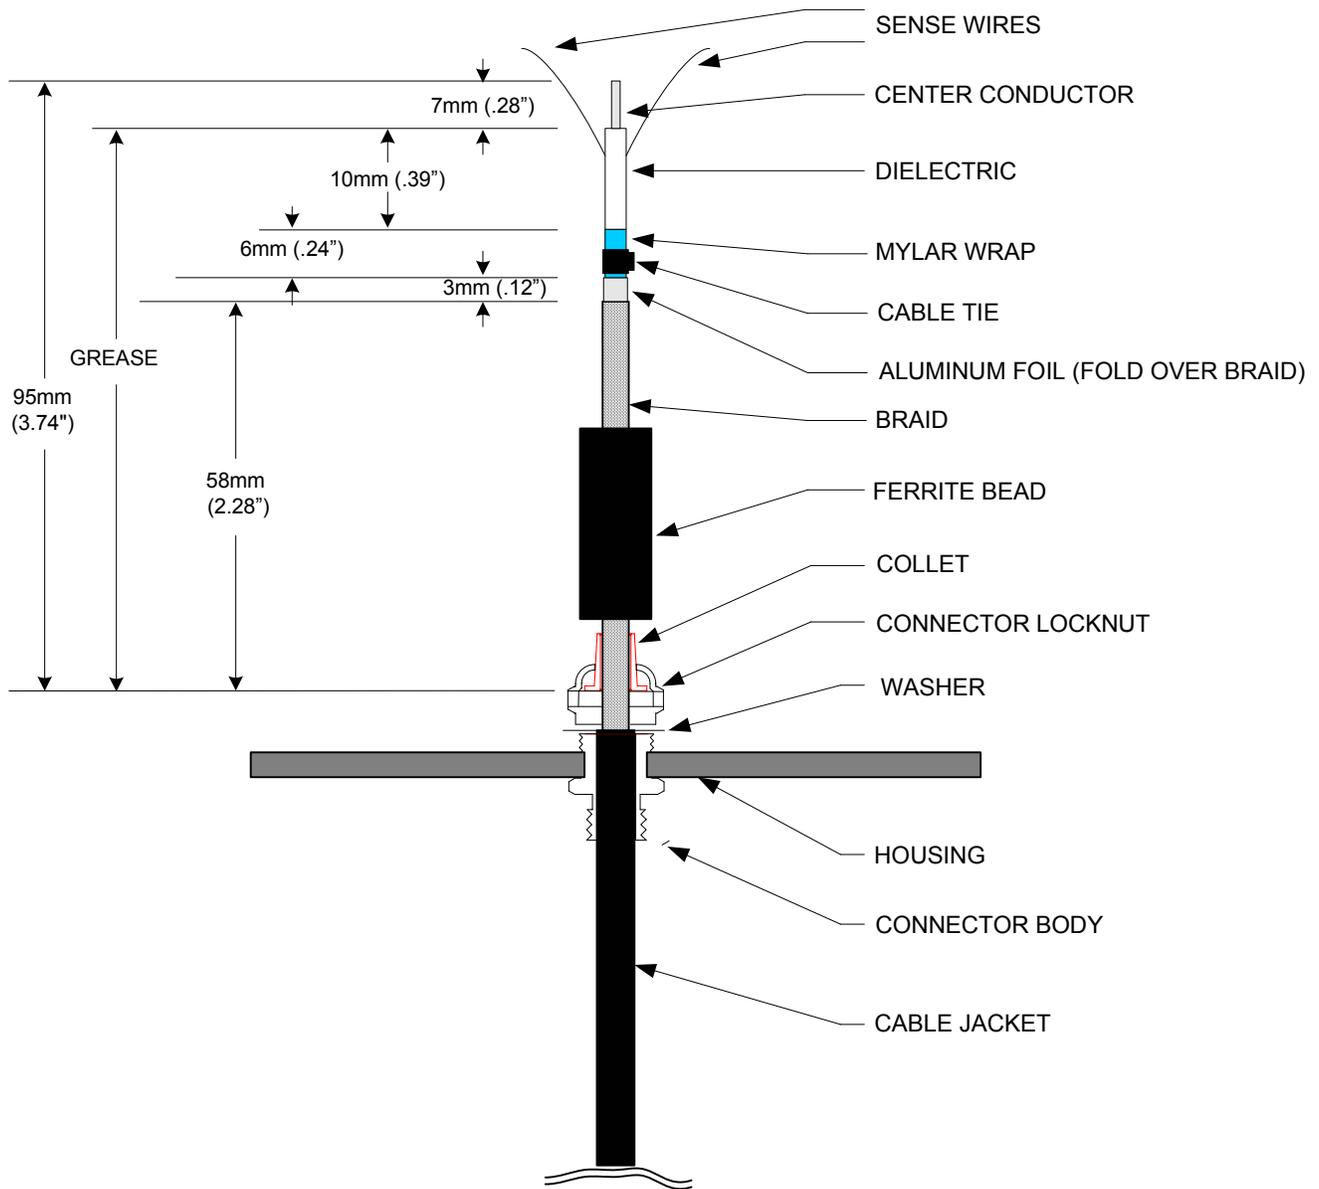

Figure 1
Below are the steps required to install the grounding connector and termination of each MicroPoint cable. Refer to the Figure 1 on page 2 of this Technical Note.
- a) Trim the braid, aluminum foil, Mylar wrap, dielectric and center conductor to the dimensions in Figure 1.